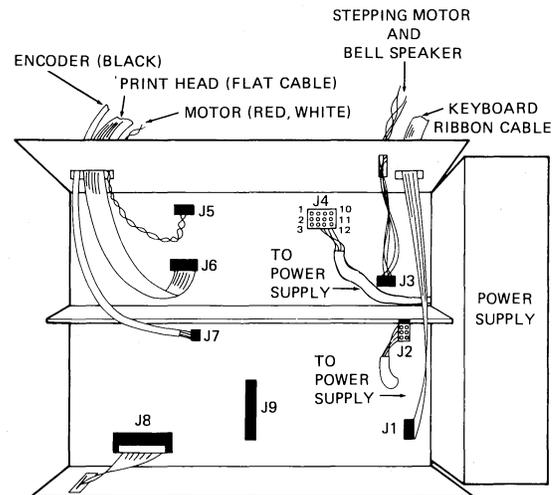

Fig. 30-Logic Board Connectors
- (d) Disconnect the EIA protection module cable from J8 on the logic board (Figure 30).
- (b) Connect the EIA protection module cable to J8 on the logic board (Figure 30). Ensure that the cable is not twisted.